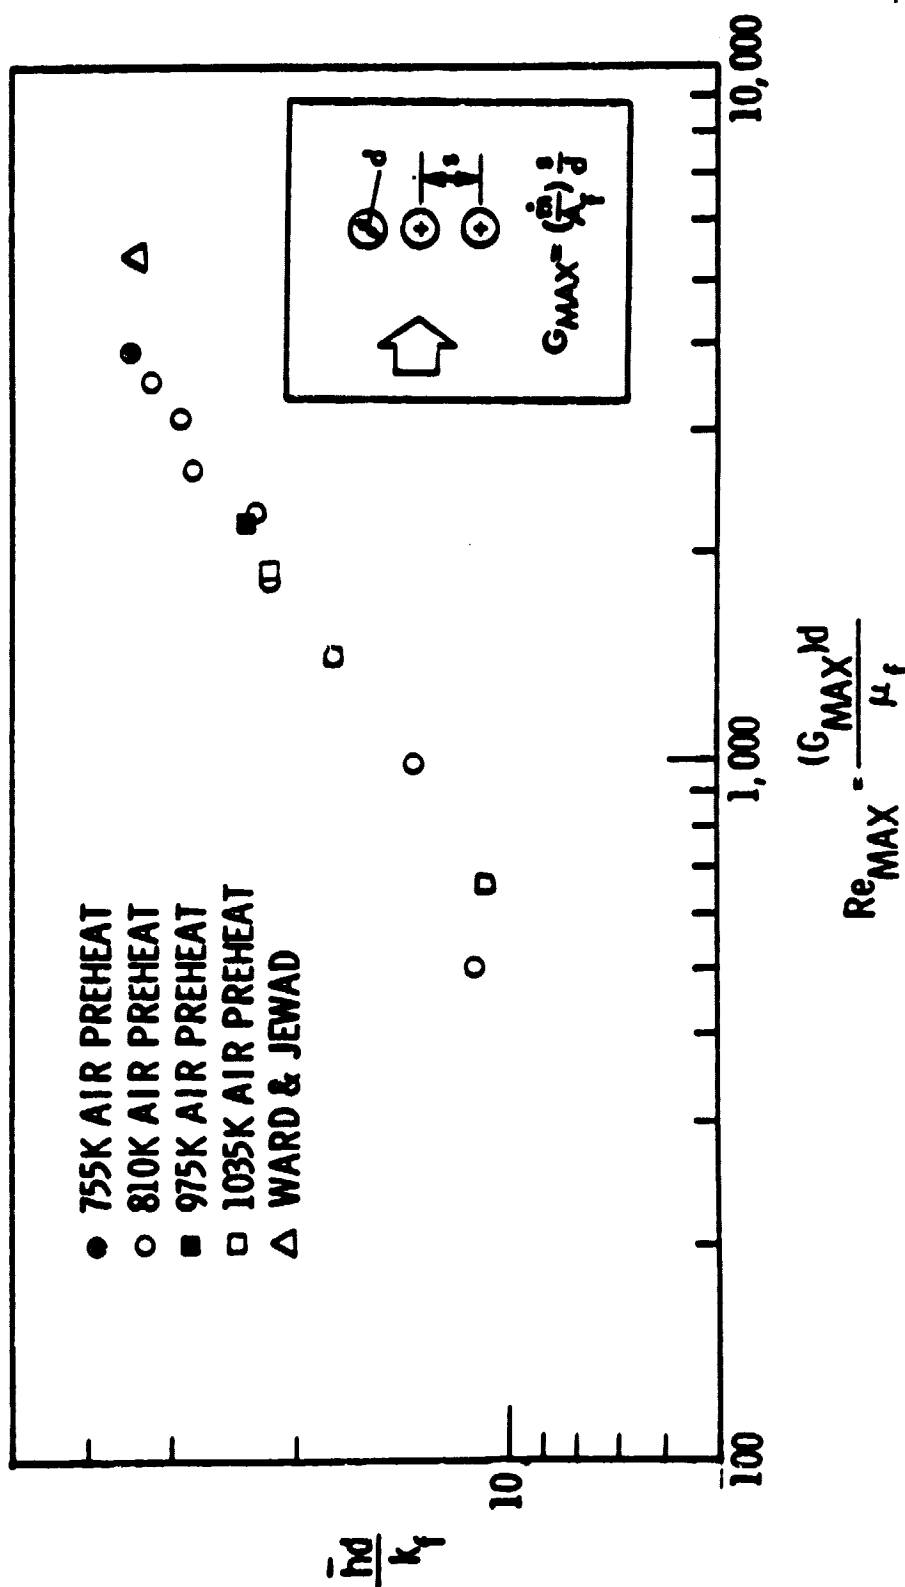

Figure 3-5. DSSR Combustor: Overall Heat Transfer Coefficients
Figure 3-5 presents overall heat transfer data for the combustor tube bank at four air preheat temperatures. The Nusselt number is plotted versus the Reynolds number referenced to the velocity in the minimum free area between tubes. The single data point taken from Ward and Jewad's(1) data is for closely spaced tubes in a single row with a blockage ratio  $d/s = 0.923$ ; in comparison, the blockage ratio for the DSSR tube bank is 0.928. These data show apparent enhanced heat transfer characteristics for the present heat exchanger tube bank when compared to similar data for a perpendicular row of straight tubes.